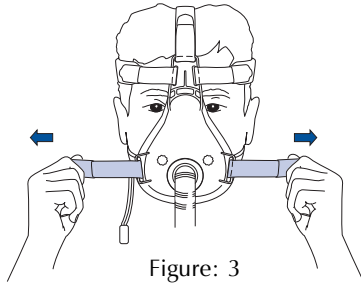
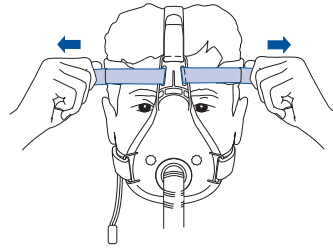

Figure: 3
Figure: 4
- 4 Tighten the side lower (Fig. 3) and then the side upper Velcro straps (Fig. 4) to achieve a secure and comfortable fit.